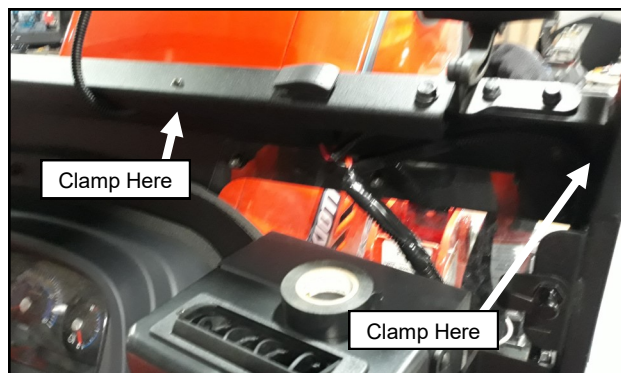

Fig. 13.3 (Wiring at Cowl)
13.3 Open the windshield and secure the wiring harness to the cowl using a cable clamp, through the hole in the cowl. Verify the wiper harness routing allows the windshield to be opened and closed without the harness getting pinched under the windshield. See figure 13.3.